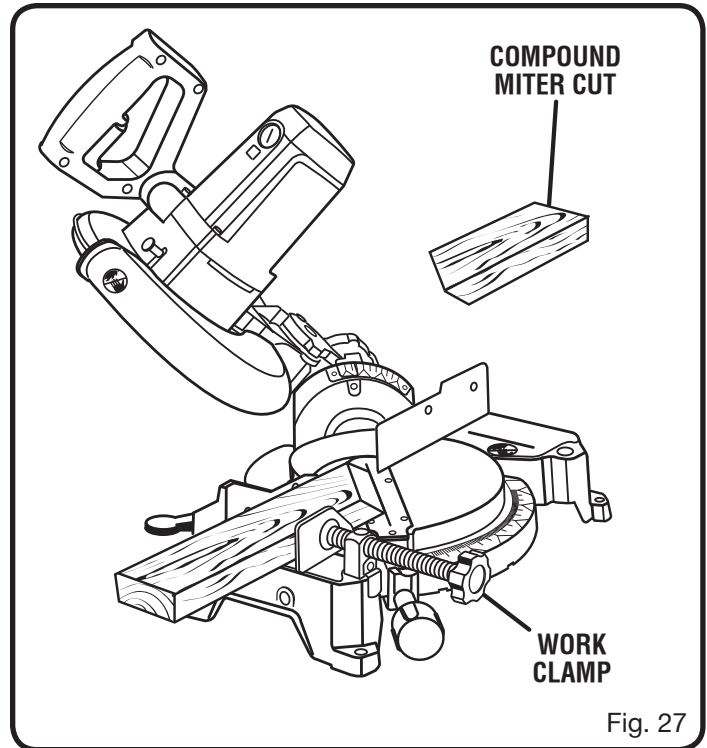

Fig. 27
See Figure 27.
- Slowly lower the blade into and through the workpiece. See Figures 27 - 28.